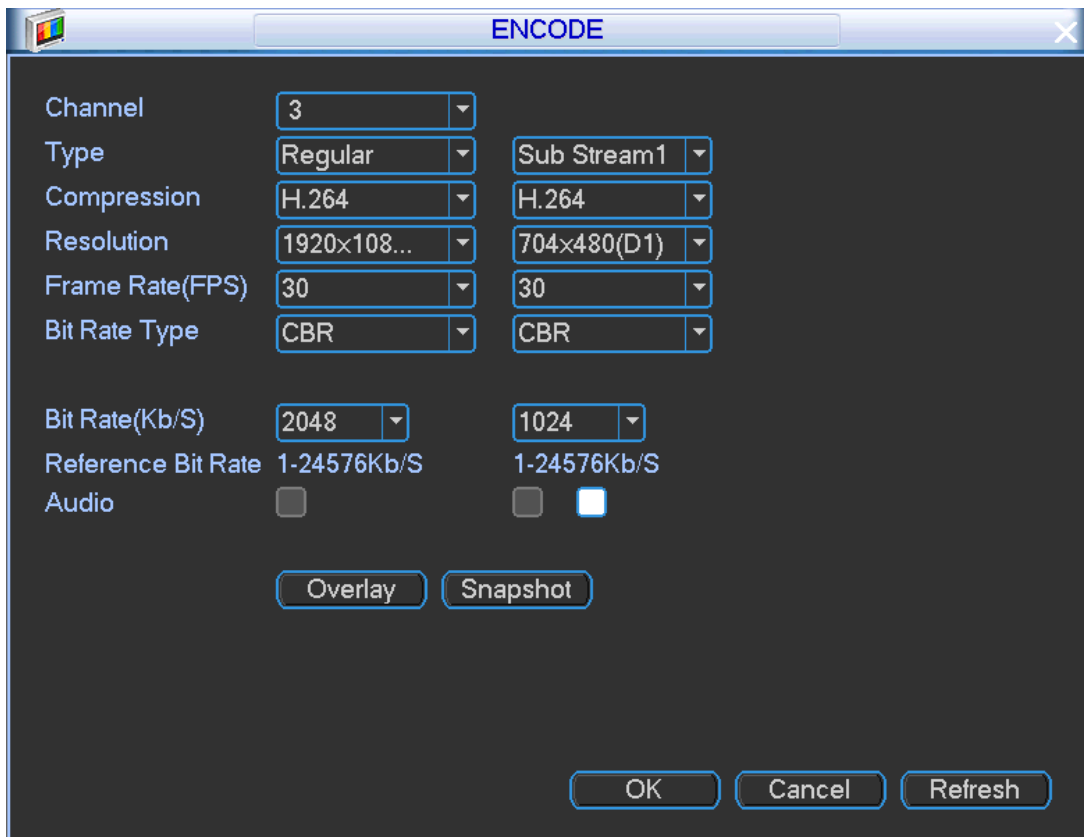

Figure 4-52
Step 1 On the main menu, from Setting->Encode, Enter encode interface. See Figure 4-52.